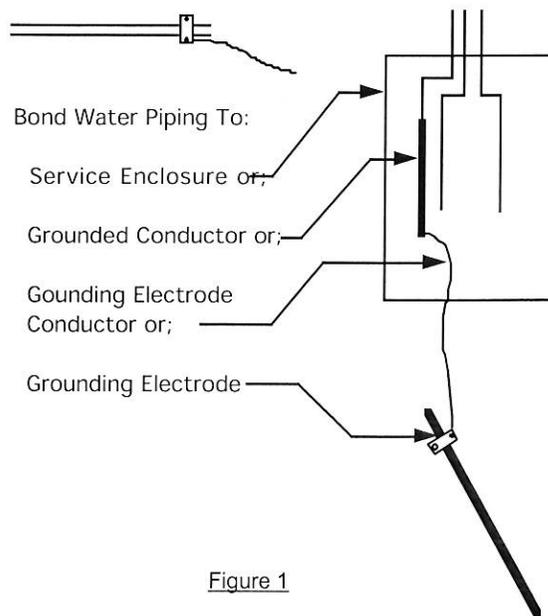

Figure 1
2. Interior metal water piping systems must be bonded to the service equipment enclosure, the grounded conductor at the service, grounding electrode conductor where of sufficient size, or to the one or more grounding electrodes used. Number 6 stranded bonding wire is commonly available and may be used to bond systems up to 200 amps. See Figure 1.